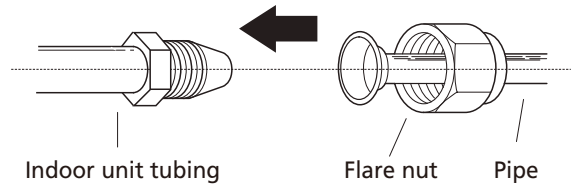

Fig. 6.7
- Align the center of the two pipes that you will connect. See Fig. 6.7.